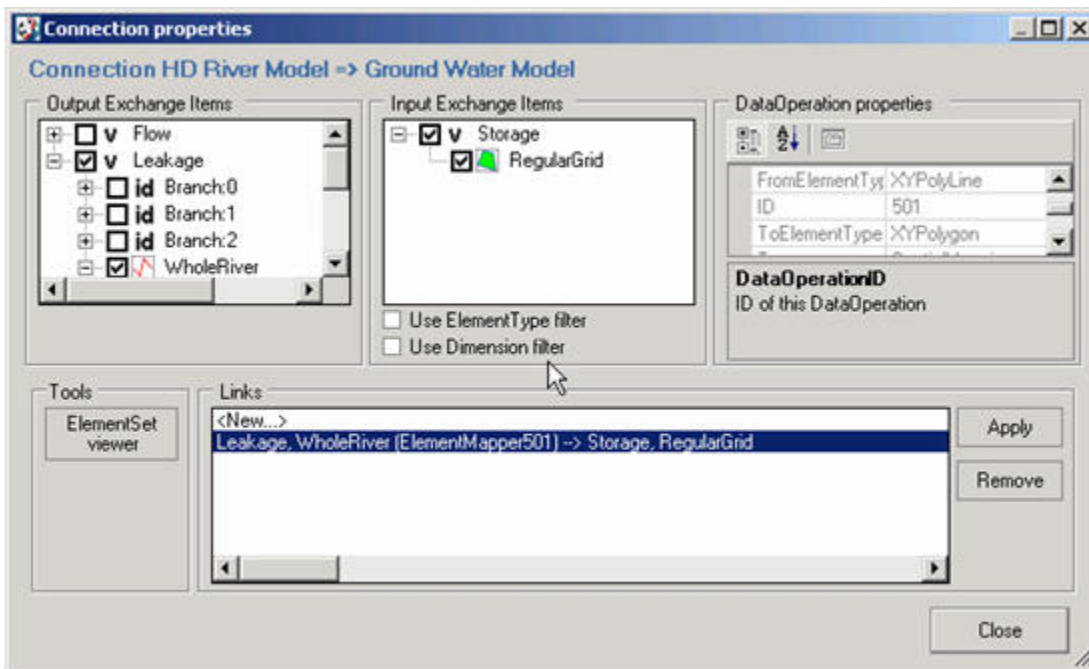

Figure 3 Open source OpenMI Configuration Editor's link property dialog for the link from the hydrodynamic river model to the groundwater model
3. Connections between the models are created simply by dragging arrows from one model to another. Clicking a connection brings up a link editor dialog (see Figure 3). This dialog has information, obtained from the model components, about which quantities can be provided and which quantities can be accepted. The required combination can then be selected.